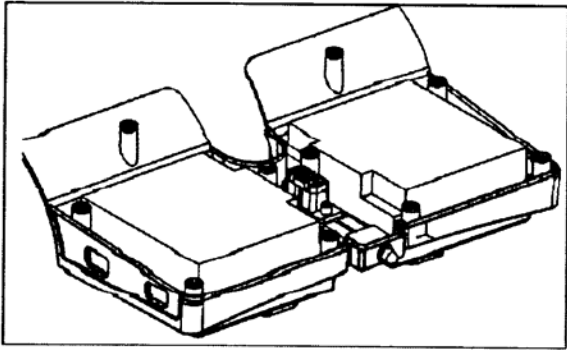

Figure 14. Battery replacement.
3. Remove the eight (8) screws from the perimeter of the battery pack.
5. Disconnect the black (-) and red (+) battery cables from the battery terminals of each of the batteries. See figure 14.